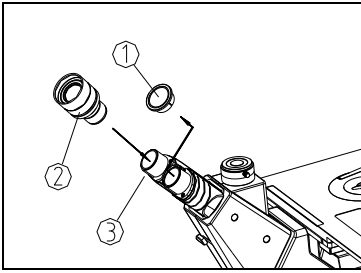

Fig. 10
(1) Take off the cover① of eyepiece tube. (Fig.10)
(2) Insert the eyepiece② into the tube thoroughly.
(3)When using eyepiece with diopter adjusting, please use screw③ to fix the eyepiece② in order to prevent the eyepiece② truning.